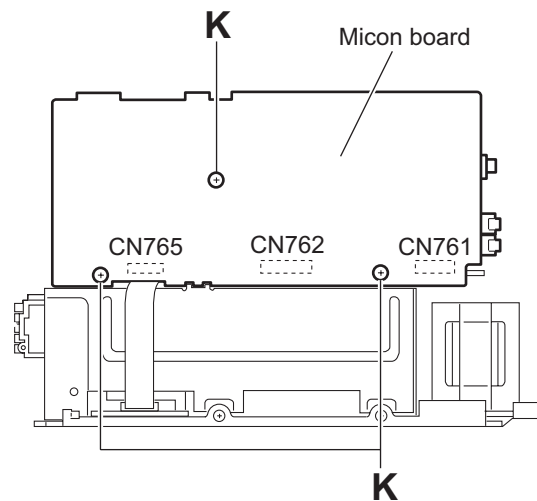

Fig.10
- (3) From the right side of the main body, remove the three screws **K** attaching the micon board. (See Fig.10.)
- (4) Disconnect the connectors (CN761, CN762) on the micon board toward this side. (See Fig.10.)
- (5) From the forward side of the micon board, disconnect the card wire from the connectors CN765. (See Fig.10.)